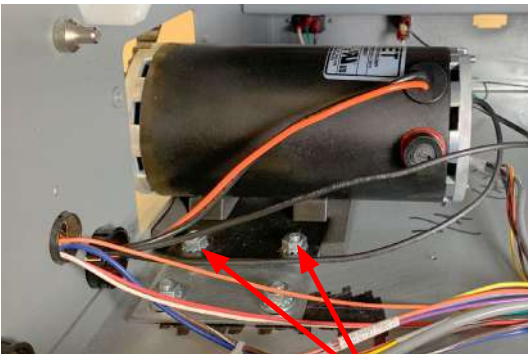

Fig. 48
8. Remove the four mounting nuts that hold the motor in position (Fig. 48).